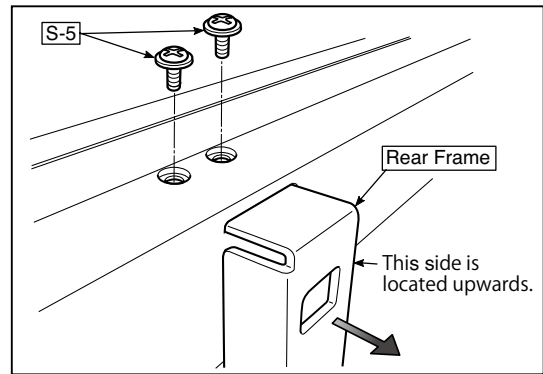

Fig.21
8) Remove the Rear Frame. (See Fig. 21)
1. Remove the "S-5" screws shown in the figure 21 and then remove the Rear Frame (two).